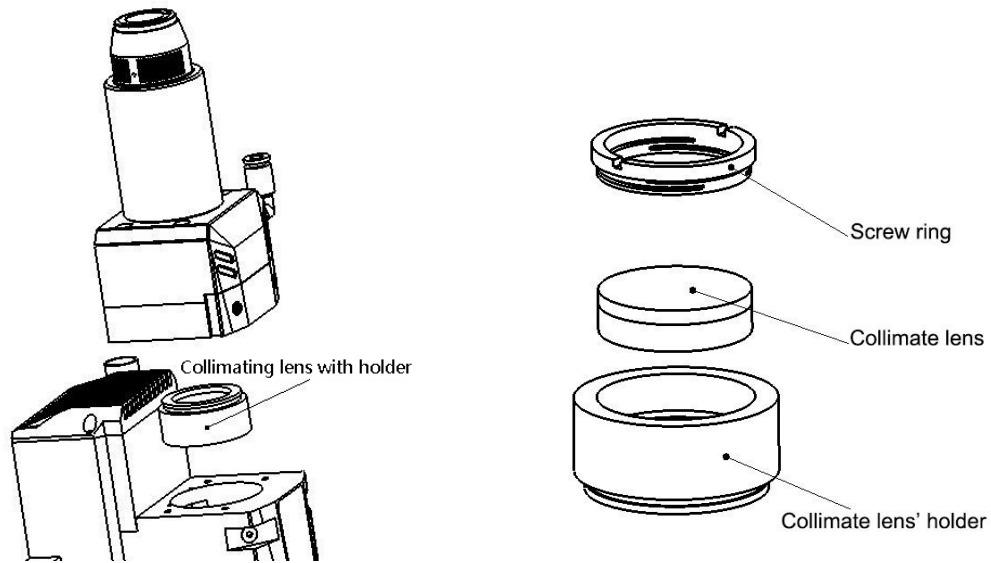

Figure 15. Collimate lens with lens' holder.
(1) Disassembly the cutting head and clean up all the dust on the surface of the head in a clean place;
(2) Loosen all the screws of the collimate lens unit showed in figure 15 by hexagonal screw driver in 3mm, and kindly suggest you use masking tape to cover the part connecting with collimate lens for preventing dust coming inside;
(3) Take out of the collimate lens with lens' holder by optics resemble tools and then take out of the screw ring and collimate lens by the same tool;
(4) Clean or change the collimate lens;